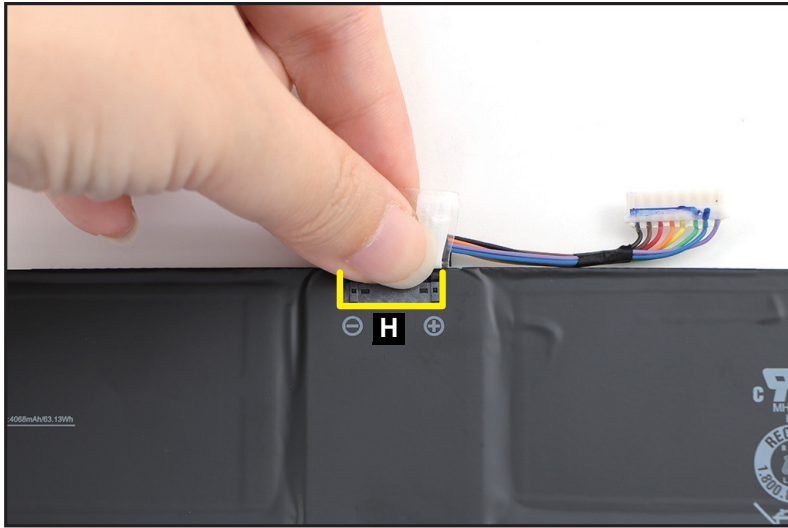

Figure 1-13. Battery Pack Removal
7. Disconnect the battery cable from the battery connector (H) (Figure 1-13). Then remove the battery cable.